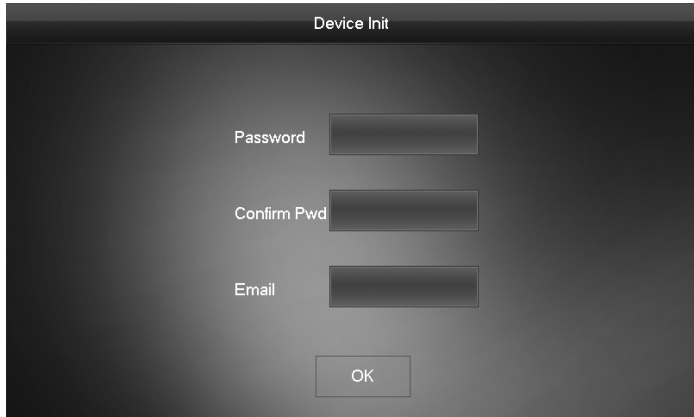

Figure 2-7
Step 1 Power on the device. The system displays "Welcome" and enters "Initialization" interface, as shown in Figure 2-7.